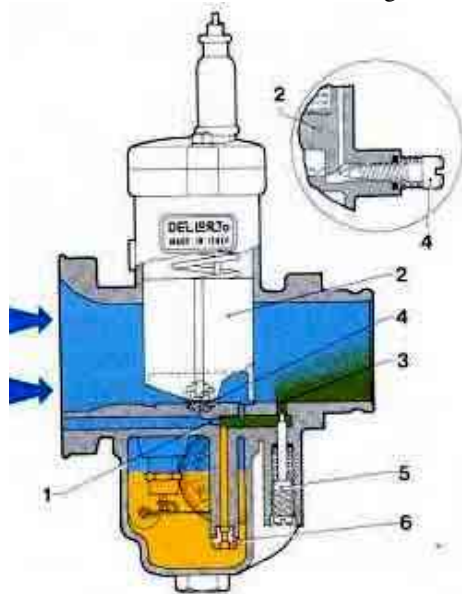

fig. 18
In **figure 18** the throttle slide 2 is shown in the idling position, adjusted by the idle speed screw (4). In this position the vacuum present down stream of the throttle valve causes mixture to be delivered via the hole (3), regulated by the tapered tip of the mixture adjusting screw.